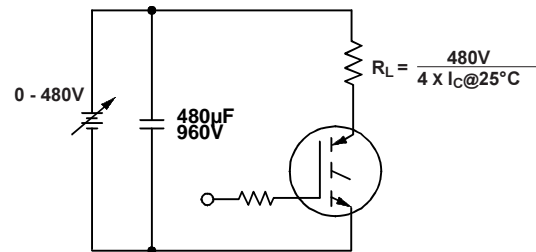

Fig. 13b - Pulsed Collector Current Test Circuit
- ① Repetitive rating; $V_{GE} = 20V$, pulse width limited by max. junction temperature. (See fig. 13b)